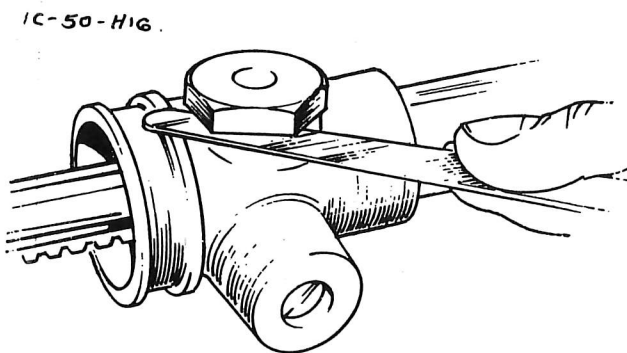

Fig. 15. MEASURING CAP NUT HEAD/
- a. Fit the plunger and cap nut to the pinion housing. Tighten the nut to eliminate all end float and, using feeler gauges, measure the clearance between the nut and housing as shown on Fig. 15. Remove the cap nut and plunger.